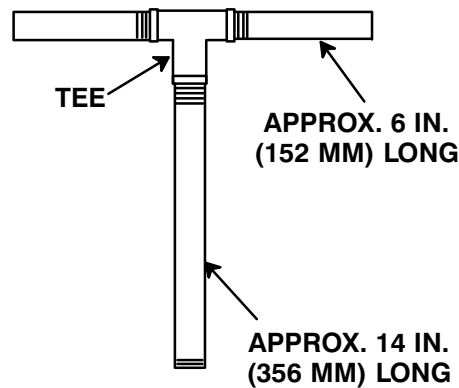

Figure 3. Rotating Assembly Tool
*An optional disassembly tool is available from the factory. If the tool is used, follow the instructions packed with it. A similar tool may be assembled using 1/2-inch pipe (schedule 80 steel or malleable iron) and a standard tee (see Figure 3). All threads are 1/2-inch NPT. **Do not pre-assemble the tool.***